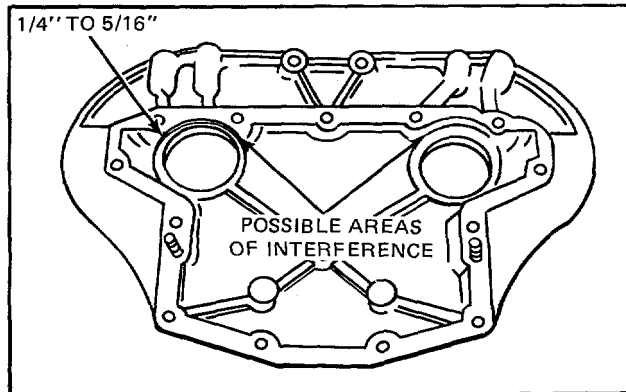

Figure 1. In-Line Engine Upper Front Cover
If oil slingers are installed on inline engines built prior to serial number 4D-944, check the distance from the holes to the gasket flange (Fig. 1). If necessary, machine or grind the cover to provide sufficient clearance for the slingers.
2. Place a piece of the plastic strip the full width of the bearing shell, about 1/4 inch off center (Fig. 1).